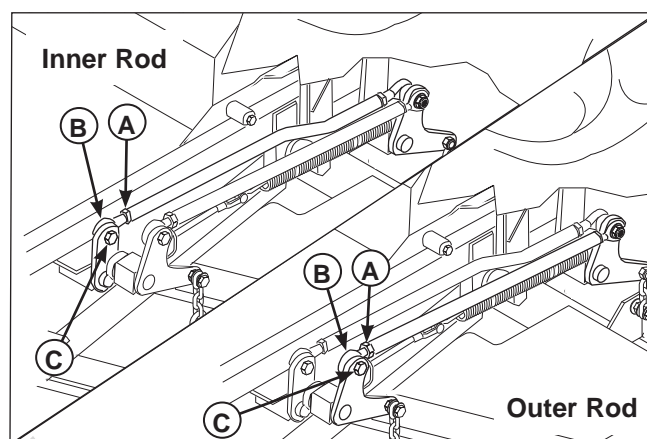

Figure 44. Adjust the Inner & Outer Lift Rods
8. To adjust the inner rod: Loosen the jam nut (A, Figure 44) on the front ball joint (B) then remove the 1/2" hardware (C) fasten the ball joint to the lift pivot arm. Turn the ball joint **clockwise** to shorten the distance between the rod pivots or **counter-clockwise** to lengthen the distance between the rod pivots. Reinstall the ball joint on the lift pivot arm and secure with the 1/2" hardware previously removed. Tighten the jam nut against the lift rod.
9. To adjust the outer rod: Loosen the jam nut (D) on the front ball joint (E) then remove the 1/2" hardware (F) fasten the ball joint to the lift pivot arm. Turn the ball joint **clockwise** to shorten the distance between the rod pivots or **counter-clockwise** to lengthen the distance between the rod pivots. Reinstall the ball joint on the lift pivot arm and secure with the 1/2" hardware previously removed. Tighten the jam nut against the lift rod.